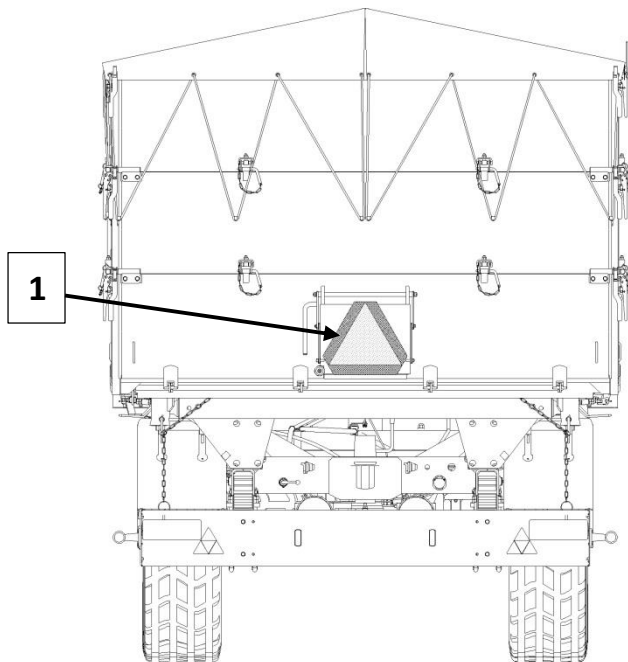

Figure 2. The location of the placement of the plate distinguishing slow-moving vehicles.
- While driving on public roads the trailer should be equipped with a certified or approved warning triangle. A triangular plate should be placed on the rear wall for slow-moving vehicles (1) as shown below (Fig. 2).